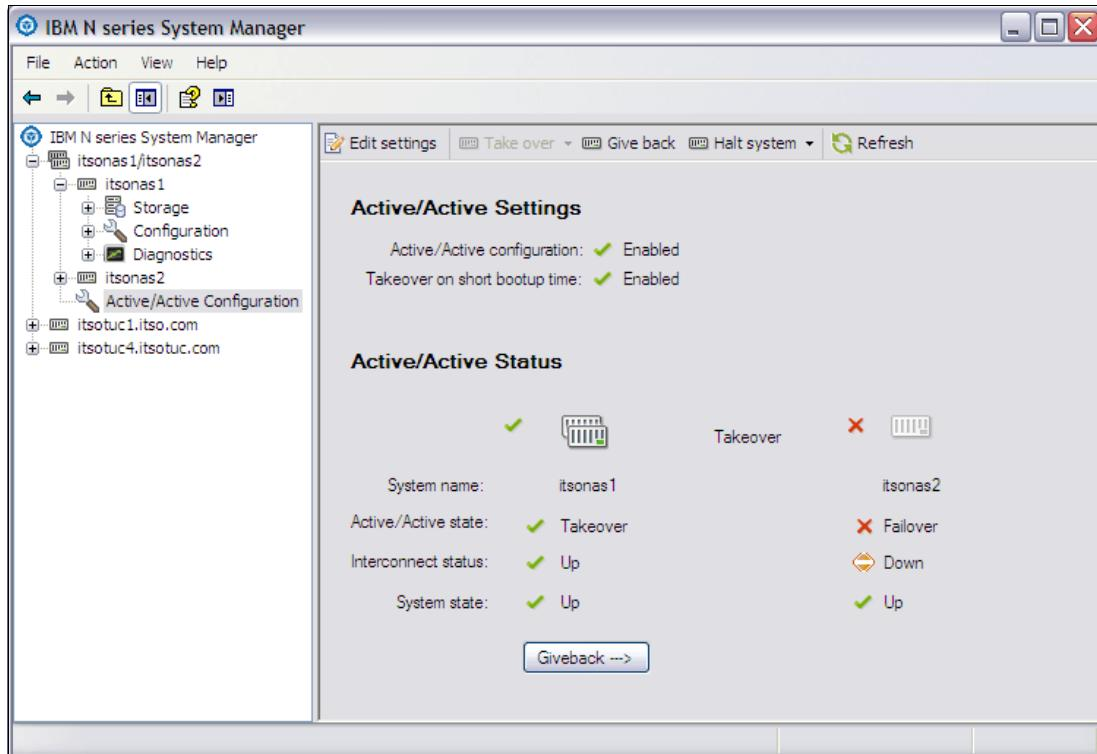

Figure 7-11 System Manager itsonas2 taken over by itsonas1
- Figure 7-11 shows that System Manager now displays the status of the takeover. The only option at this stage to perform giveback.